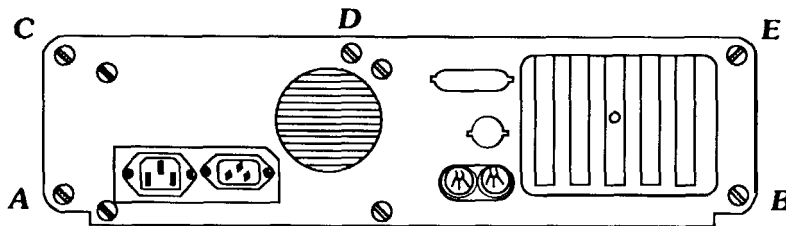

Figure 1
2. Position the computer or yourself so you can see the back panel as shown in Figure 1 below: